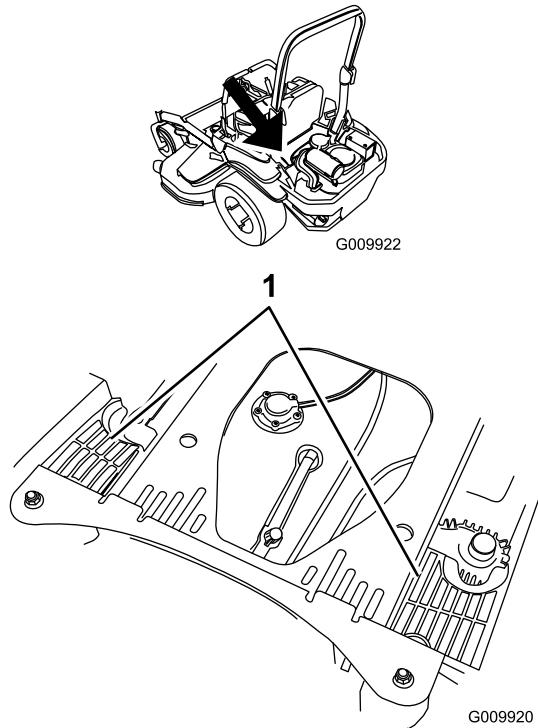

Figure 73
4. Clean the debris and grass from the hydraulic unit shrouds (Figure 73).